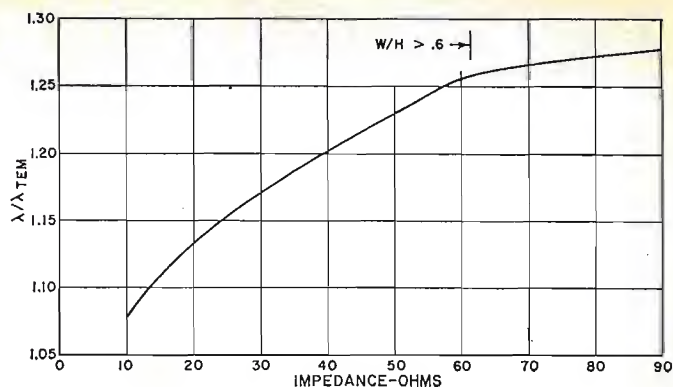

Fig. 3. Actual wavelength of a given section of microstripline is greater than wavelength in free air as shown here.
To compensate for this phenomenon, a correction factor multiplier (K) is applied to the length of the line. Again, employing equations by Caulton and Sobol and resulting computer data, a curve has been derived from which K may be found (Fig. 3). This correction factor is on the vertical axis and is shown as $\lambda/\lambda_{\text{TEM}}$, where λ is the wavelength in air and λ_{TEM} is the wavelength in the ceramic substrate that is being used as the example in this article. From the curve, K has a value of 1.23 for a 50-ohm line. Thus, at 3.0 GHz, $\lambda = 10.0$ cm, and $\lambda/4 = 2.5$ cm. This quarter wavelength is then multiplied by K : $2.5 \times 1.23 = 3.075$ cm, which is the actual length of line deposited.